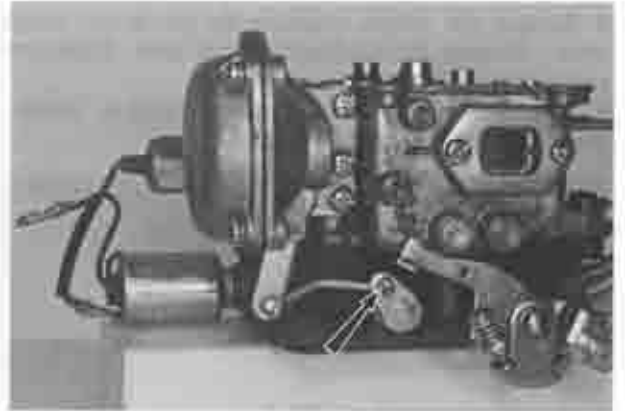

Fig. 4-15 Removing diaphragm connecting rod
2. Disconnect the connecting rod of the diaphragm chamber by removing the cotter pin as shown in Fig. 4-15.